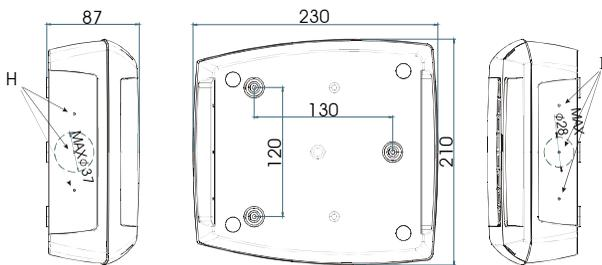

FIG. 3
3. Make the proper holes for cablepresses or pipepresses using the centres signed in the bottom cover of the Cool Mate, (Fig. 3, H, I,). Then make 3 holes in the wall, as indicated in (Fig. 3, L, M, N), to fix the Cool Mate
5. Insert the wall-nugs, contained in the kit, into the holes made in the wall. Then use the o-rings and fix the back part of the Cool Mate (Fig. 3, L, M, N) by means of the 3 screws to the wall itself.
5. Make the proper holes for cablepresses or pipepresses using the centres signed in the bottom cover of the Cool Mate, (Fig. 3, H, I,).